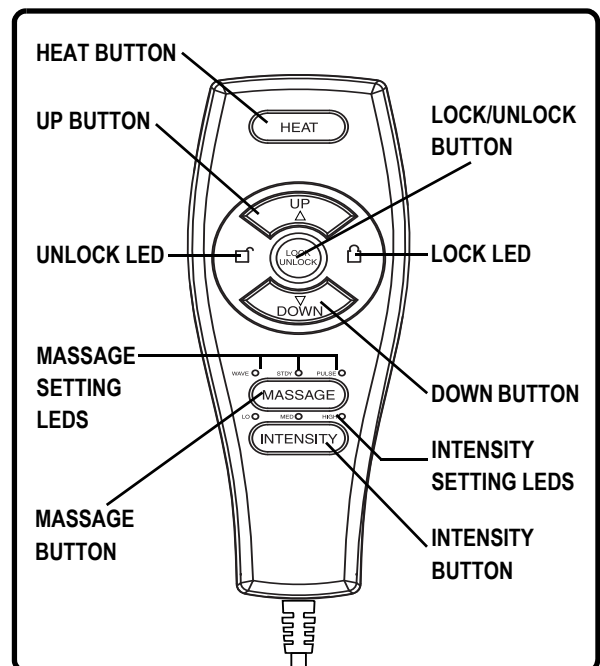

Figure 5.2 Heat and Massage Hand Control
Follow these steps to sit in your lift chair (Fig. 5.2):
Follow these steps to recline your lift chair from the seated position (Fig. 5.2):
Follow these steps to stand up from your lift chair (Fig. 5.2):
**Follow these steps to activate/deactivate the lock feature (Fig. 5.2):**
**Follow these steps to operate the heat function (Fig. 5.2):**
**Follow these steps to operate the massage option (Fig. 5.2):**
**Follow these steps to adjust the intensity of the massage function (Fig. 5.2):**